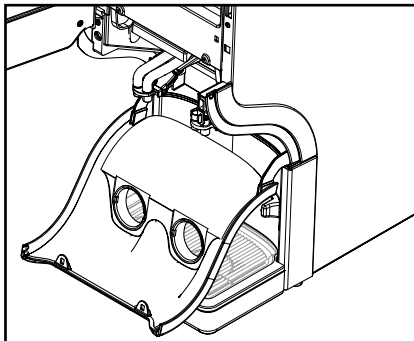

Fig. 26
- b. Pull the outlet cover down (fig.26).